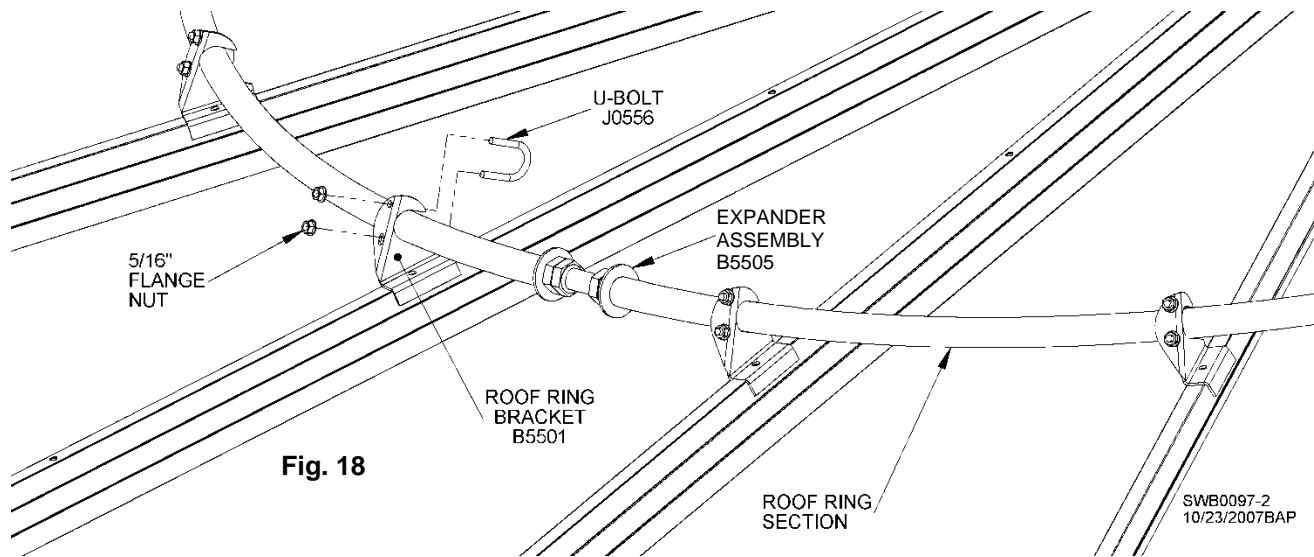
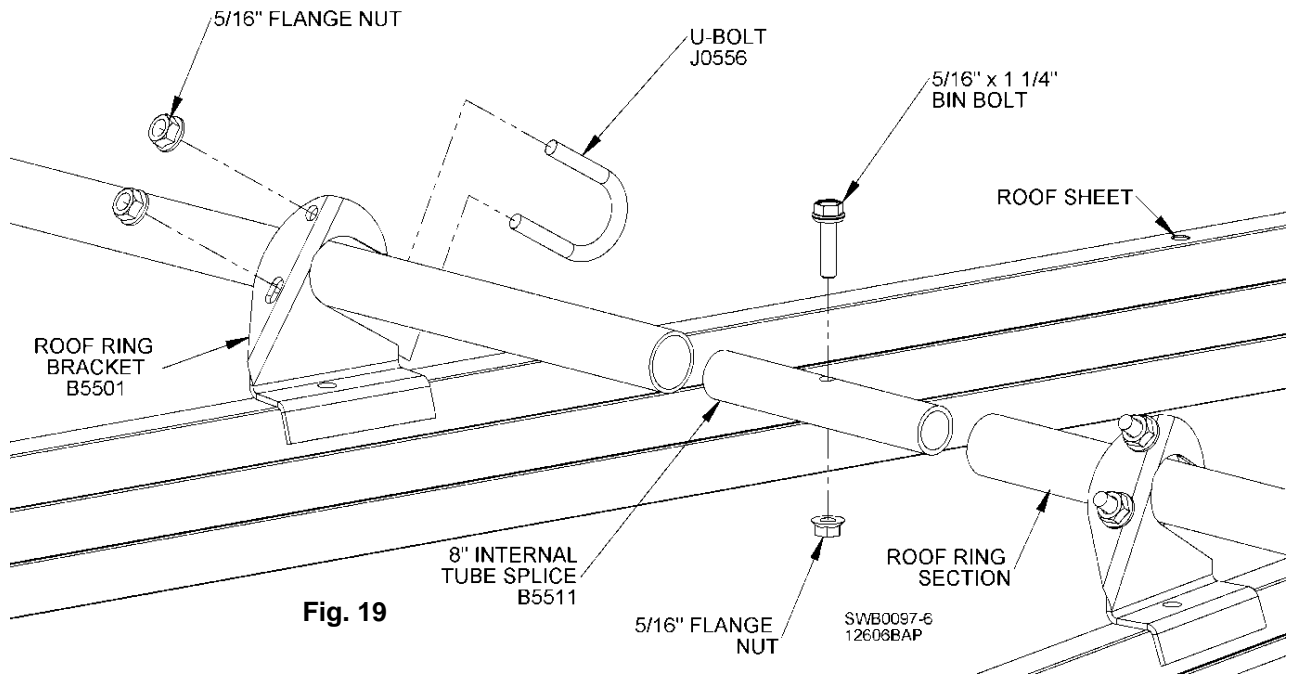
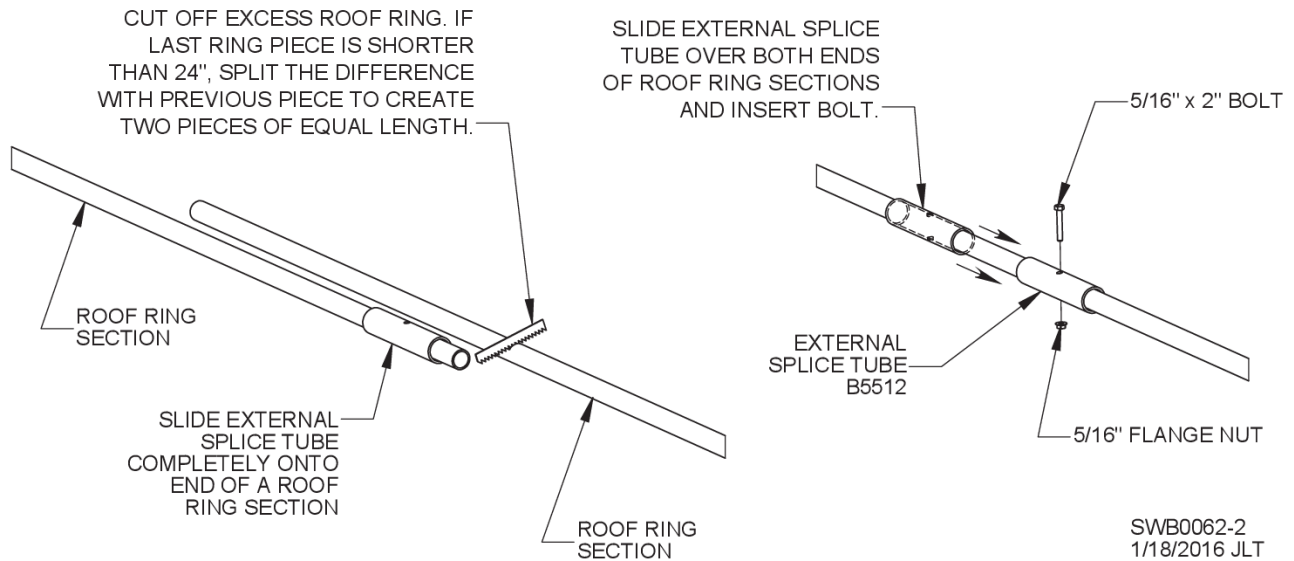

Fig. 18
Fig. 19
Fig. 20
Pre-assemble expander assemblies (1 x 10" threaded rod, 1" nuts and 1" washers) before installing ring. Run all four (4) 1" nuts to center of each threaded expansion rod. Position washers outside of nuts. Nuts and washers will later be run outward after all sections of ring have been assembled. See Fig. 18.
Place first expander assembly near roof ladder. Center first ring section on roof ladder sheet. Evenly space remaining expanders around roof ring as ring sections are placed into bent roof ring brackets. Install internal tube splices (B5511) at all other locations except last one, where an external splice tube will be used. Fig. 19 shows 8" internal tube splice using a 5/16 x 1-1/4" bin bolt as a stopper. Fig. 20 shows 8" external splice tube (B5512) using 5/16 x 2" bolt. Place 5/16" U-bolts on all roof ring mounting brackets. See Figs. 18 and 19. Do not tighten U-bolt flange nuts until later after roof has been crowned.
External splice tube will be installed after all other splices and expanders are in place and ring sections are trimmed. If final section of roof ring will be less than 24" long, split the difference with previously assembled roof ring section and create two sections of equal length. See Fig. 20. Ensure there is a 3/8" gap between ring sections for bolt that will be inserted. It may be necessary to deburr cut edges.